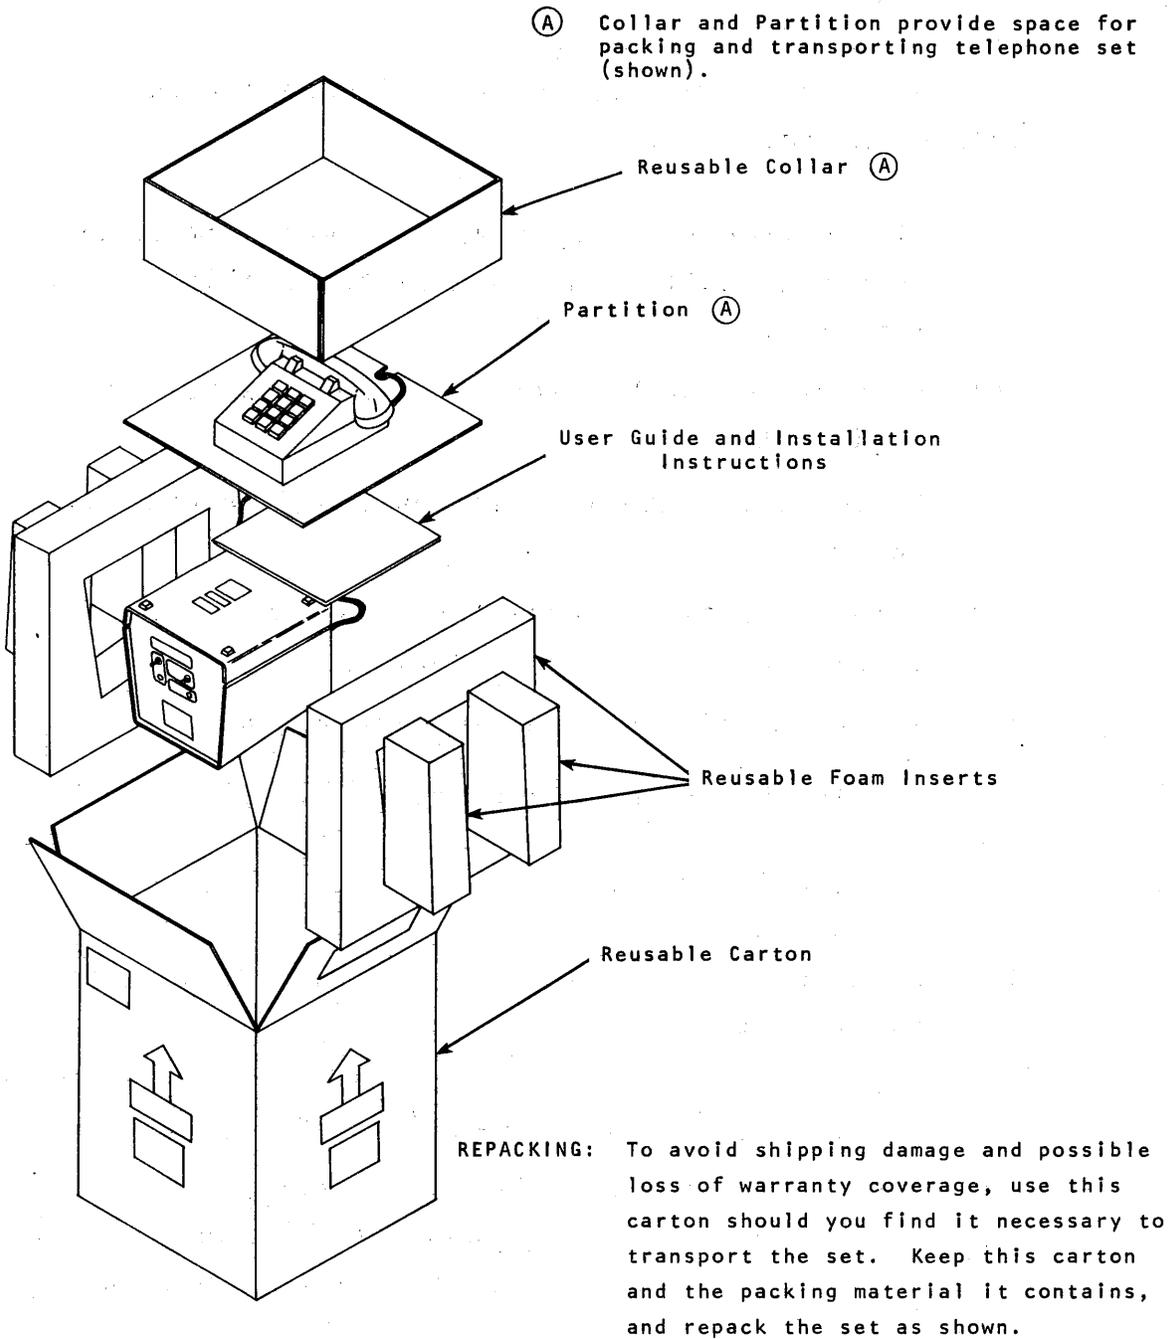

Figure 2-1. Terminal Packing, Exploded View (Shown with Telephone in Place)
2.01 To unpack the terminal, refer to figure 2-1 and the following procedure:
5.02 Repack the terminal in shipping carton with telephone set. Refer to figure 2-1 and the following procedure: